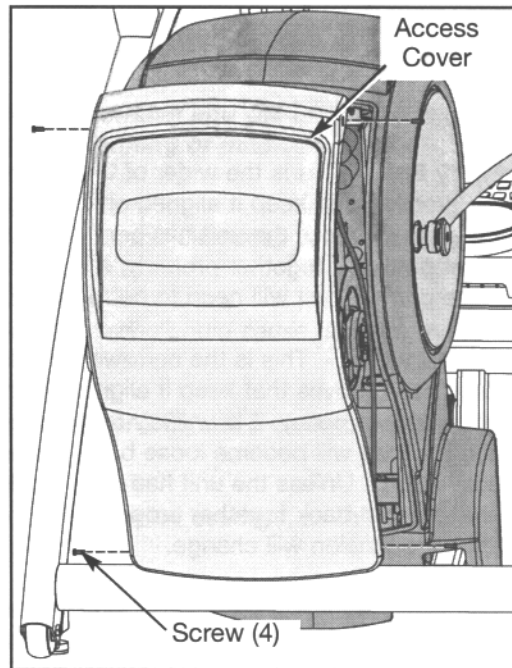

Figure 2
- A. Turn the main power switch above the power inlet to the off (O) position.
- B. Remove the two upper screws securing the access cover. See Figure 2.
- B. Tighten the two lower screws, removed in step 3A. **NOTE: Do not over tighten screws.** See Figure 2.